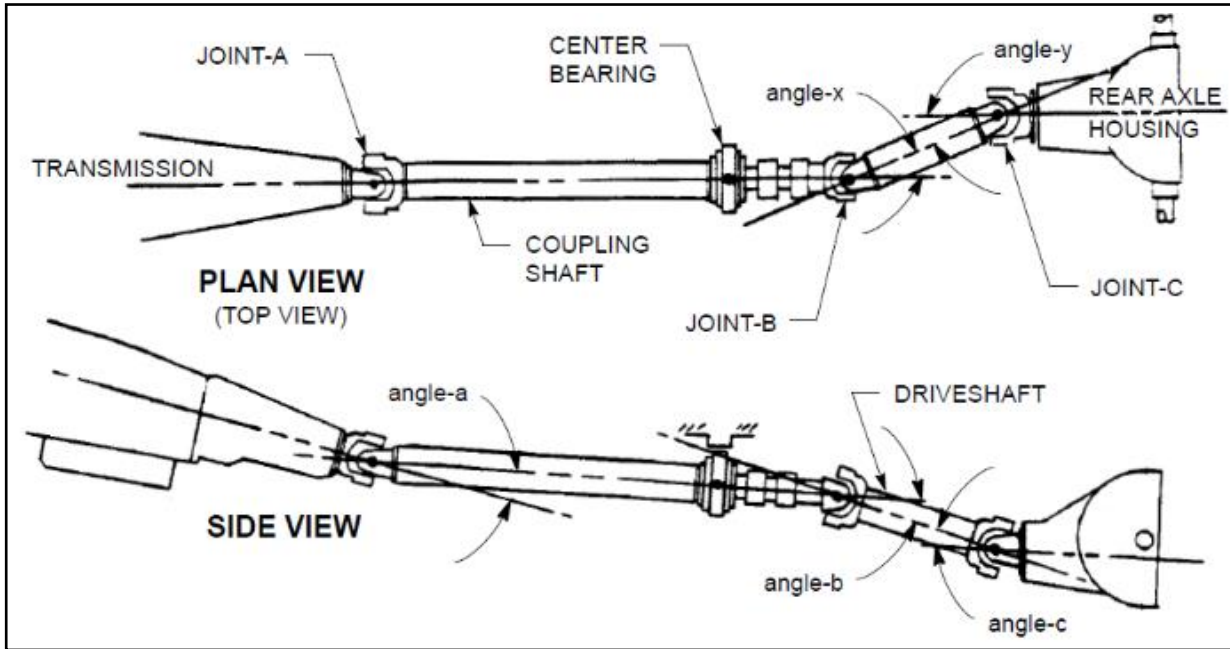

Figure 22 – Example Driveline System
1) The Net Operating Angle, at any individual joint, must be at least 0.5 degree, and not exceeding 3.0 degrees. The Net Operating Angle (Θ) is equal to the root sum of squares (RSS) of the side and plan view angles between two segments of the drivetrain (See Figure 21). Figure 22 illustrates a typical driveline system. Using this figure, the Net Operating Angle of each joint would be calculated as shown in Figure 23.